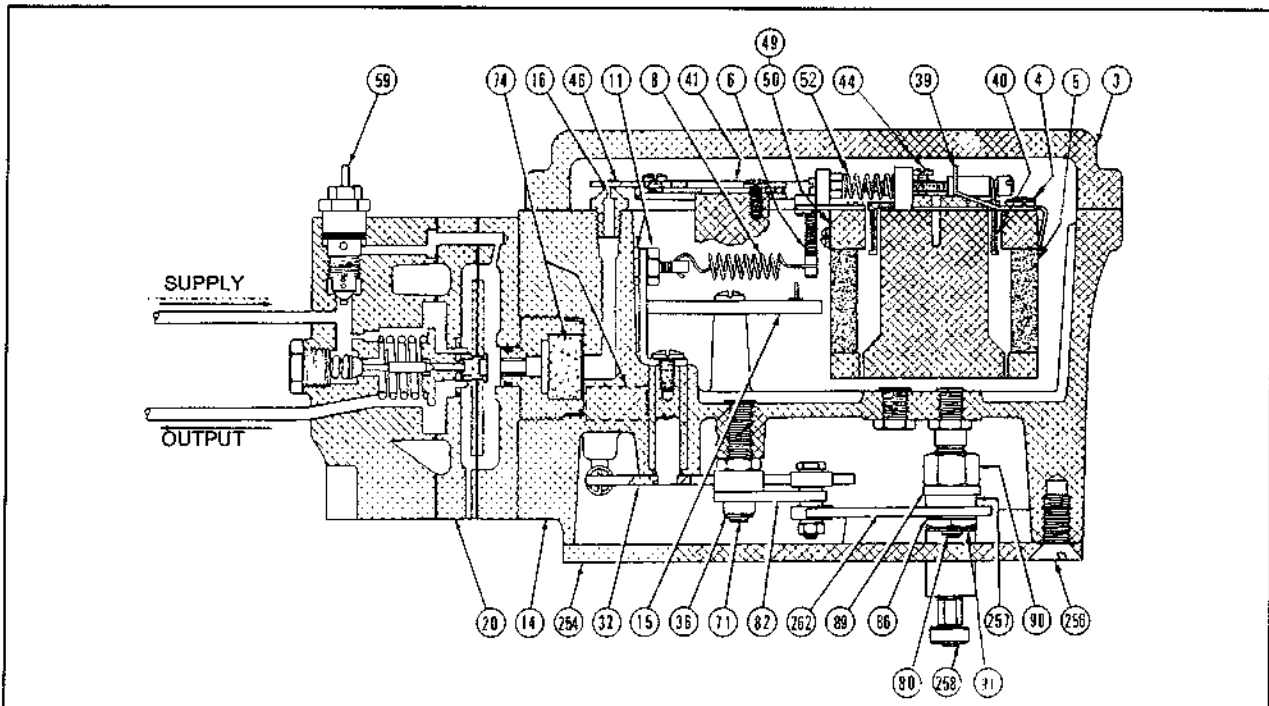

Figure C7 - Sectional view of the positioner
- Using a 6 mm fork wrench loosen the bearing shaft (258) and pull it out.
- Remove three pan head screws (256) and support plate (254) (figure C7).
- Remove retaining ring (91) and pull out the cam/rear lever S/A from the bearing post (80). Remove the cam from the rear lever by loosening nut (90) using a 13 mm fork wrench.
- Check if the position of the force-balanced spring (8) corresponds to the valve action. Turn adjusting screw (6) in order to bring the spring (8) approximately in the parallel position with the joint plane of the case and cover (see figure C7).
- *Air-to-close valve:* Apply to actuator a pressure approximately equal to the supply pressure by covering the nozzle with the flapper. In order to do it, apply a signal greater than the maximum value and/or turn the screw of the biasing spring (52). Set comparator to zero.